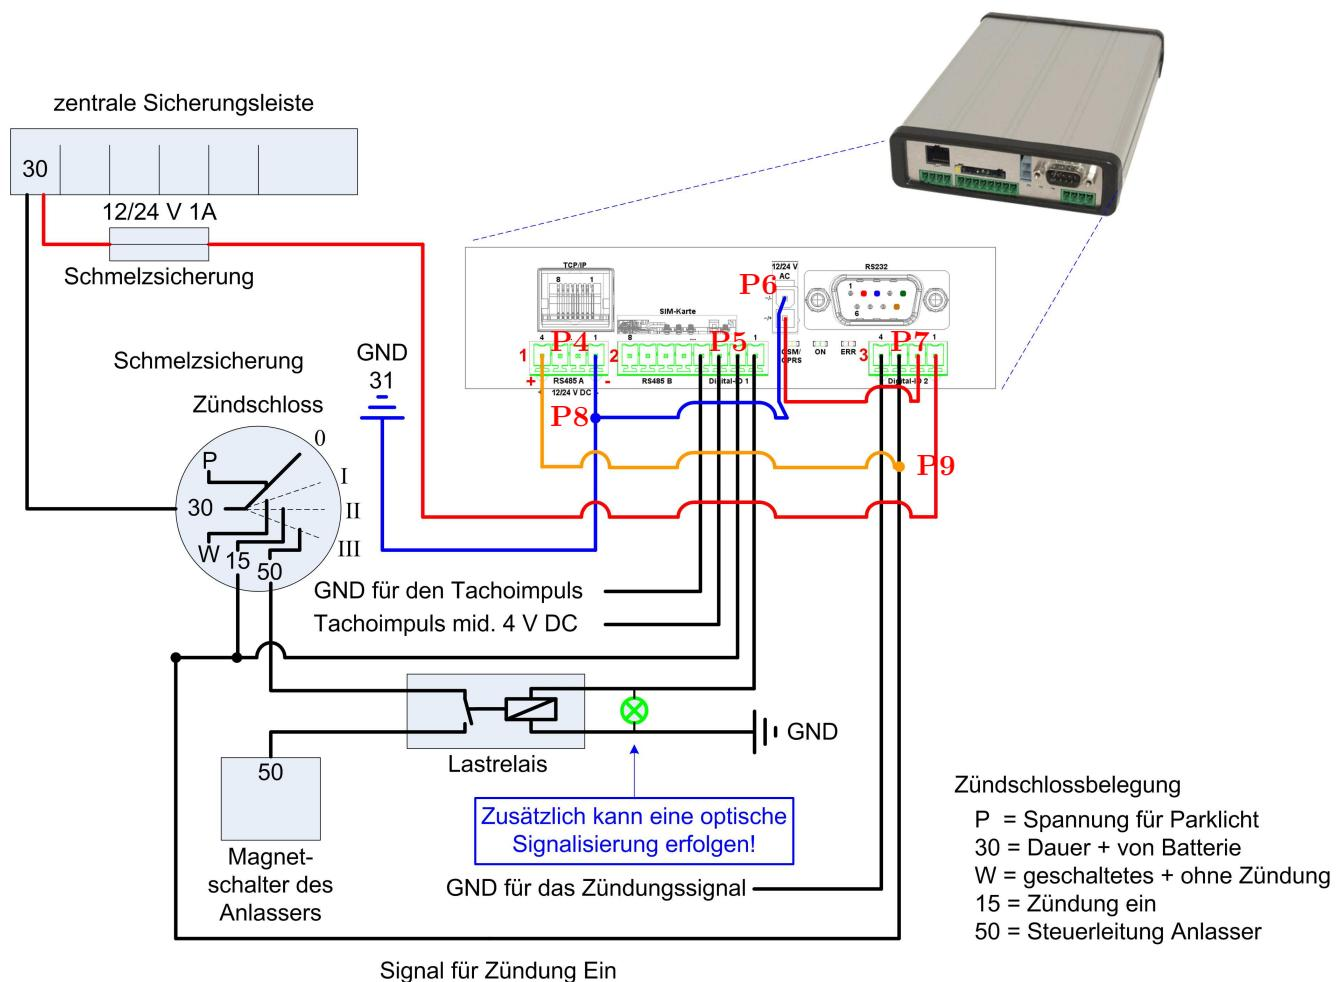
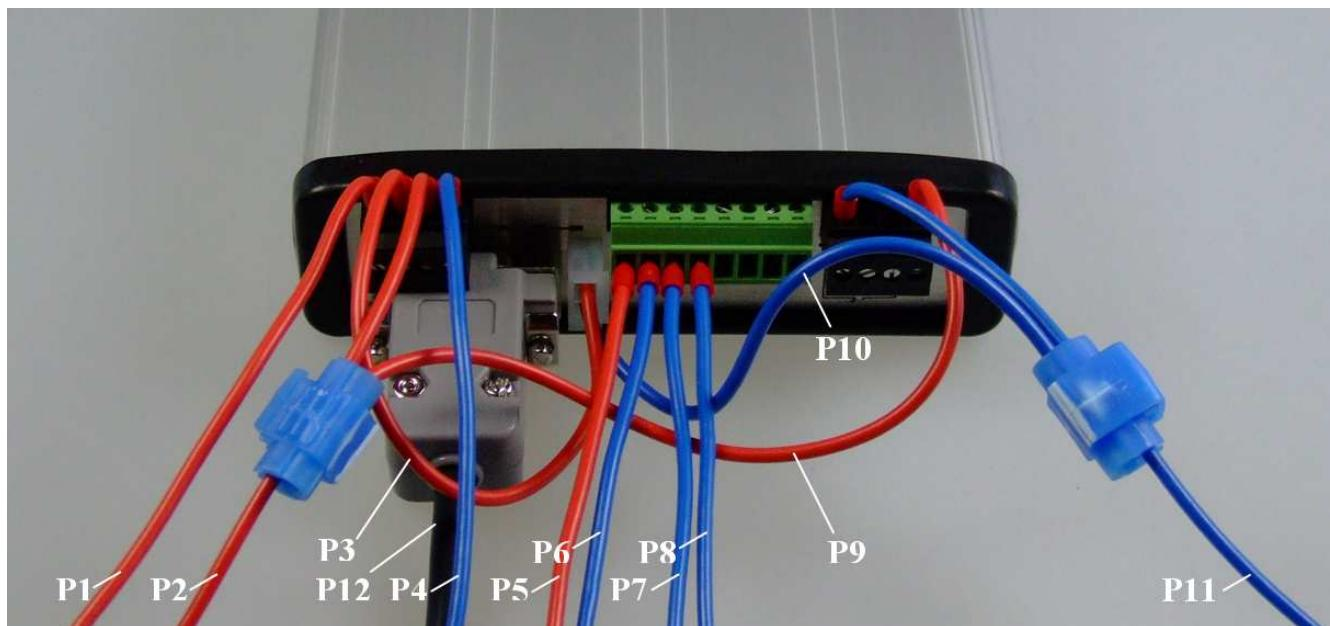

Figure 9: Terminal assignment
Figure 10: Wiring of Mobil-MasterIV
- All connection cables, laid to the clips **P4**, **P5** and **P7** (in figure 9) have to be provided with ferrules, see figure 10.
Maximum one cable per each clip of the Mobile-MasterIV has to be applied. Otherwise you should use luster terminals to centre several cables to one common cable (**max.0,75mm²**)! Use ferrules for each cable (see figure 10).